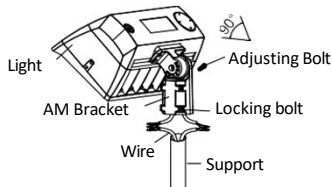

Figure 13
1. Loosen the (4) locking bolts on the slipfitter mount. Connect the wires according to the **Wiring Diagram**. Push excess wiring into the pole. **See Figure 13.**